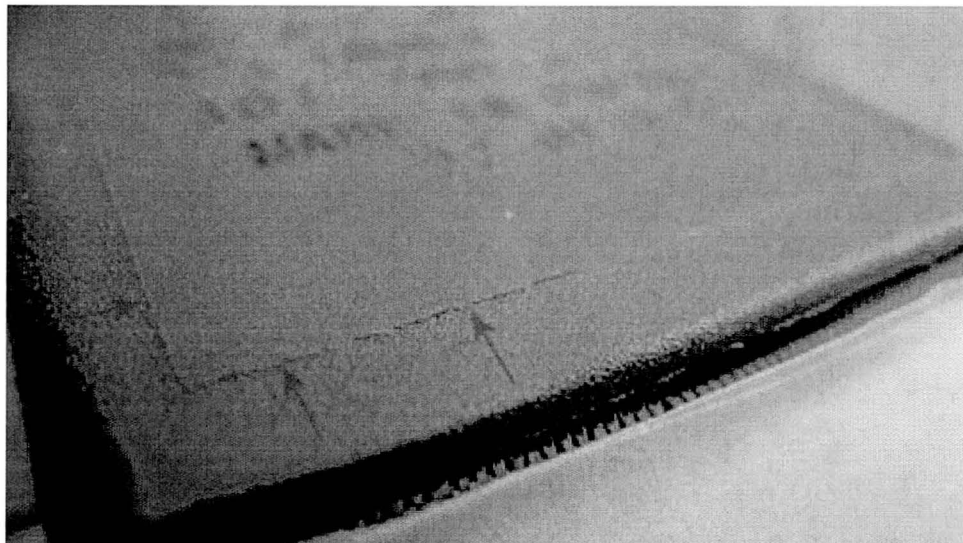
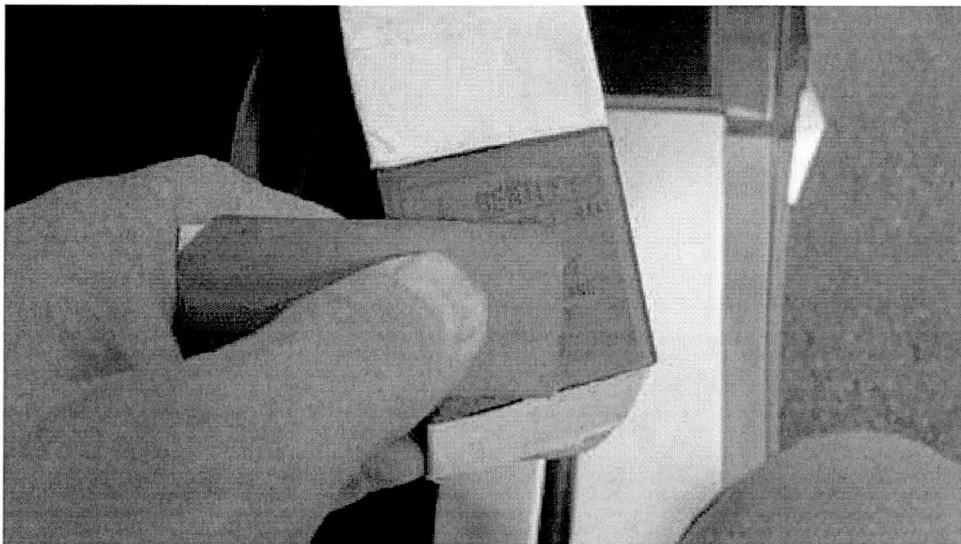

Figure1b
Figure 4
4. Using dry abrasive paper, 800 grit, abrade the surface of the plastic sleeve. The specific aim is to remove the burr (Figure 1b) that is present on the lip of the raised border that surrounds the data etched within. The data etched within the boarder will also require lightly abrading to remove any burrs. (see Figure 4)